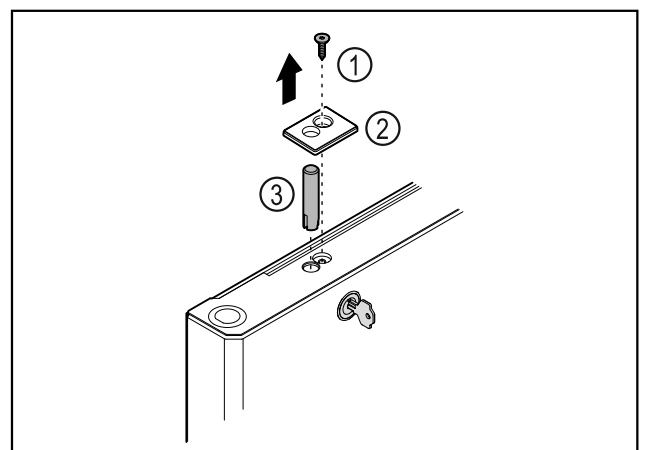

Fig. 32
- ▶ Remove the screw Fig. 32 (1).
- ▶ Unlatch the cover Fig. 32 (2) with a small screwdriver and remove it.
- ▶ Pull out the lock bolt Fig. 32 (3).